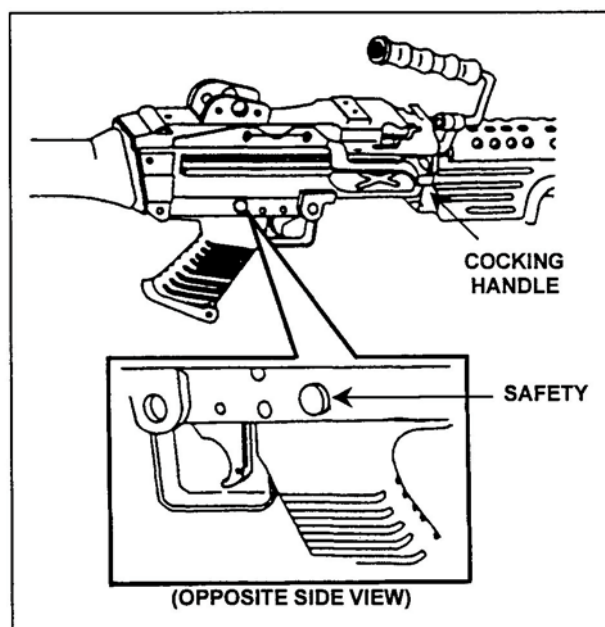

Figure 1. M249 locking handle and safety.
2. Push the cocking handle forward until you hear it click into the locked position (Figure 1).
3. Push the safety from left to right for safe mode (the red band will not show) (Figure 1).